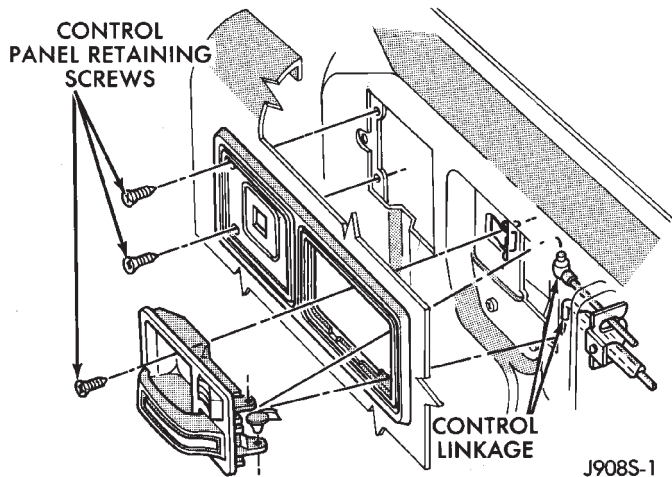

Fig. 2 Power Window Control Panel Removal/Installation
(1) Remove interior door latch release assembly and control panel retaining screws (Fig. 2).